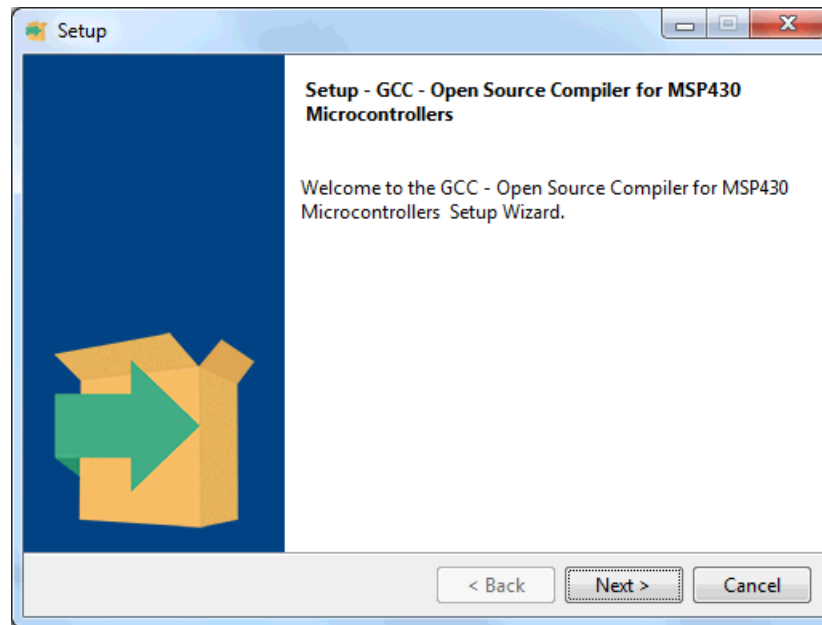

Figure 4. MSP430 GCC Stand-Alone Package Installer
1. Download the corresponding package installer and run it (see Figure 4).